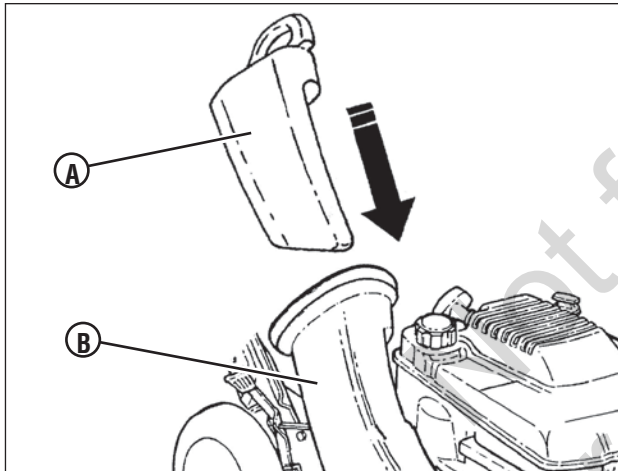

Figure 11: Installing the recycling plug
1. Install the recycling plug (**A**, **Figure 11**) if recycling is desired after the bag adapter is installed. Install the recycling plug completely and securely into the bag adapter (**B**).